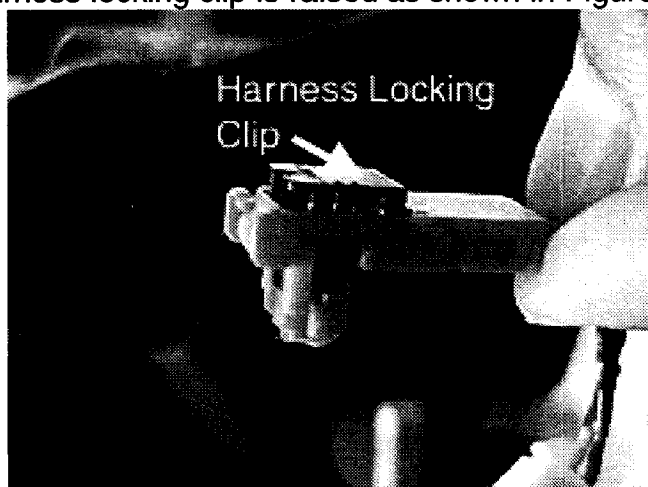

Figure 2
- A. Make sure the harness locking clip is raised as shown in Figure 2.